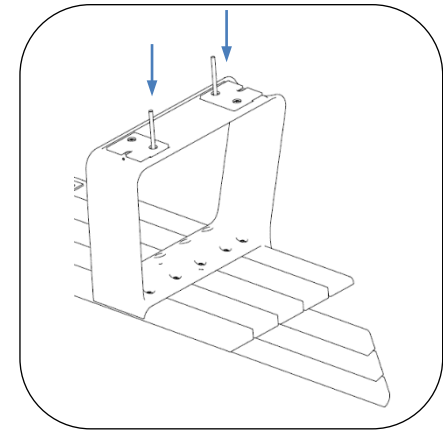

Fig. 3 – Install threaded rods in bench for embedding
3. Install threaded rods as shown in Figs. 3 or 6.